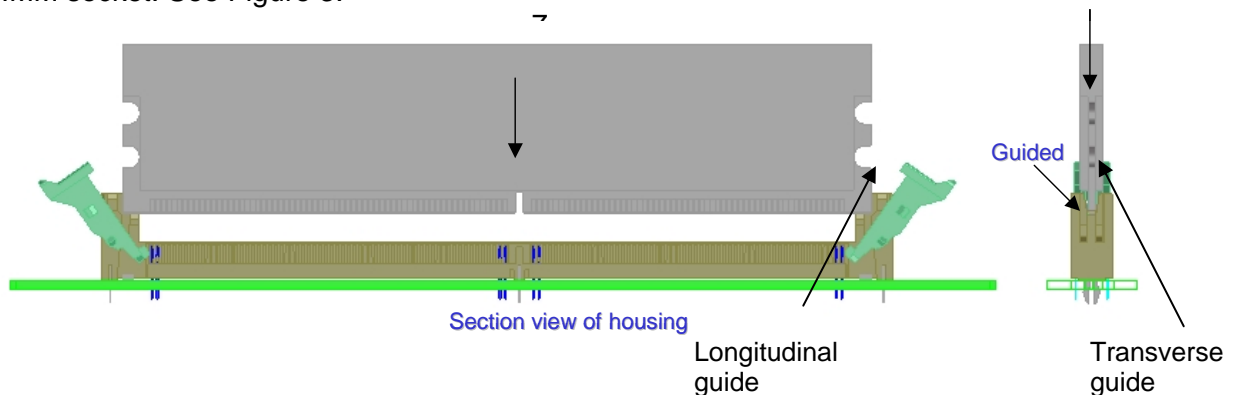

Figure 3 — Example of module alignment
6. Place the module into the socket using the latch towers as a guide until the module touches the top of the socket. Align the module card vertically at the end guides. Once it is guided, slide the module downwards until the key slot in the module engages the key in the DIMM socket. See Figure 3.